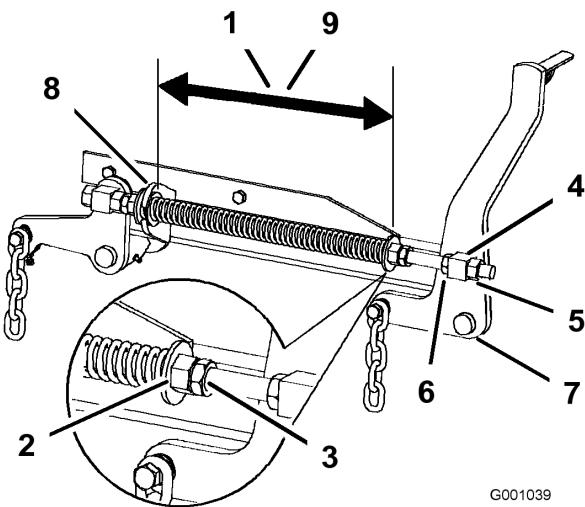

Figure 73
- Check the distance between the two large washers, it needs to be 11-1/8 inches (28.2 cm) for 52 inch mower decks and 10-1/2 inches (26.7 cm) for 60 inch mower decks (Figure 73).
- Adjust this distance, by loosening the spring jam nut and turning the nut in front of each spring (Figure 73). Turning the nut clockwise will shorten the spring; counter-clockwise will lengthen the spring.
- Lock the nut into position by tightening the spring jam nut (Figure 73).